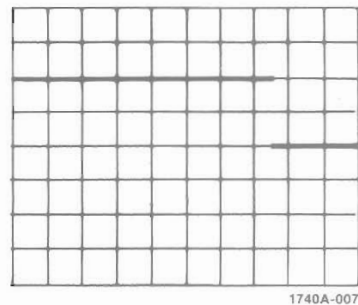

Figure 3-6. Delayed Sweep Display
d. Press DLY'D **48** and note that intensified portion of trace is now displayed across entire CRT (see figure 3-6).